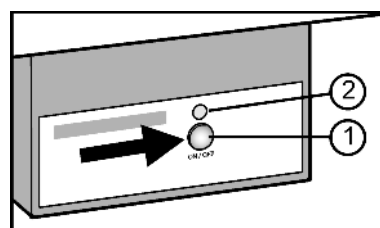

Fig. 11
- ▶ Press On/Off button *Fig. 11 (1)* so that the LED *Fig. 11 (2)* lights up.